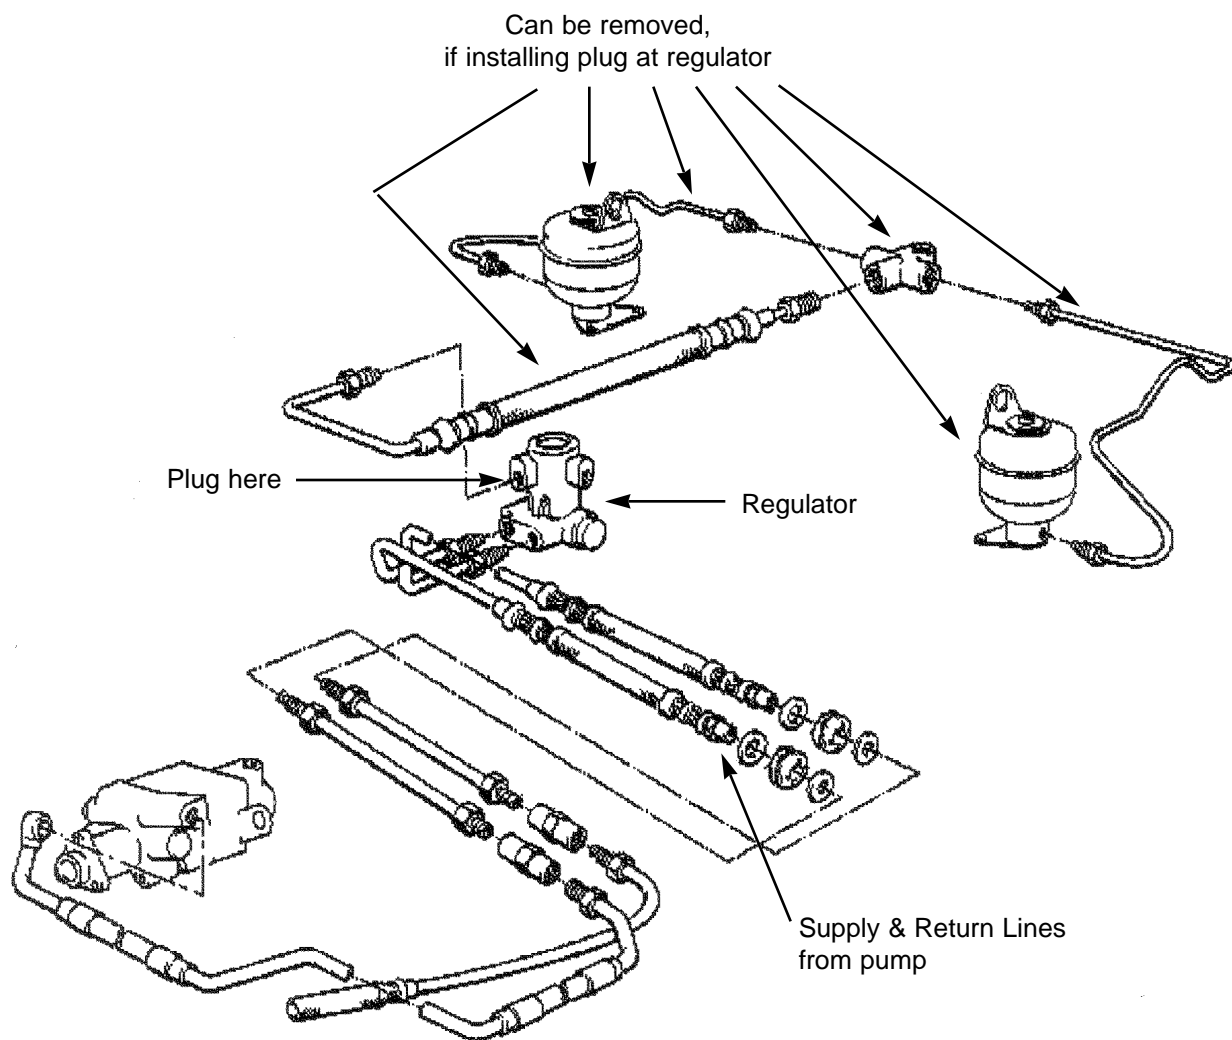

Figure 3
- a) Remove the accumulators, hoses and hardware up to the regulator, leaving the regulator attached to the supply and return hoses (from the engine driven pump). Plug the outlet of the regulator. (See Figure 3)